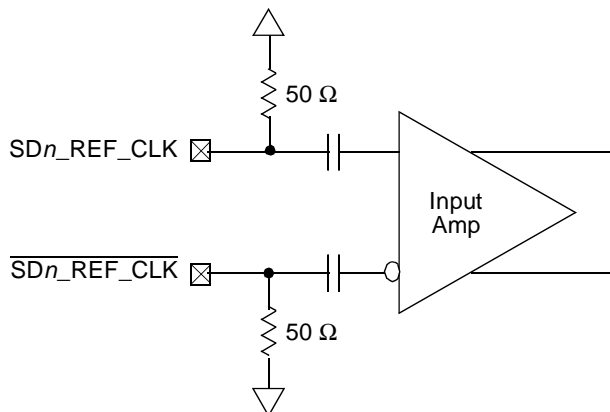

Figure 44. Receiver of SerDes Reference Clocks
Figure 44 shows a receiver reference diagram of the SerDes reference clocks. Characteristics are as follows:
- The $\overline{\text{SDn_REF_CLK}}$ and $\overline{\text{SDn_REF_CLK}}$ are internally AC-coupled differential inputs as shown in Figure 44. Each differential clock input ($\overline{\text{SDn_REF_CLK}}$ or $\overline{\text{SDn_REF_CLK}}$) has on-chip 50- Ω termination to SGND_SRDSn (xcorevss) followed by on-chip AC-coupling.